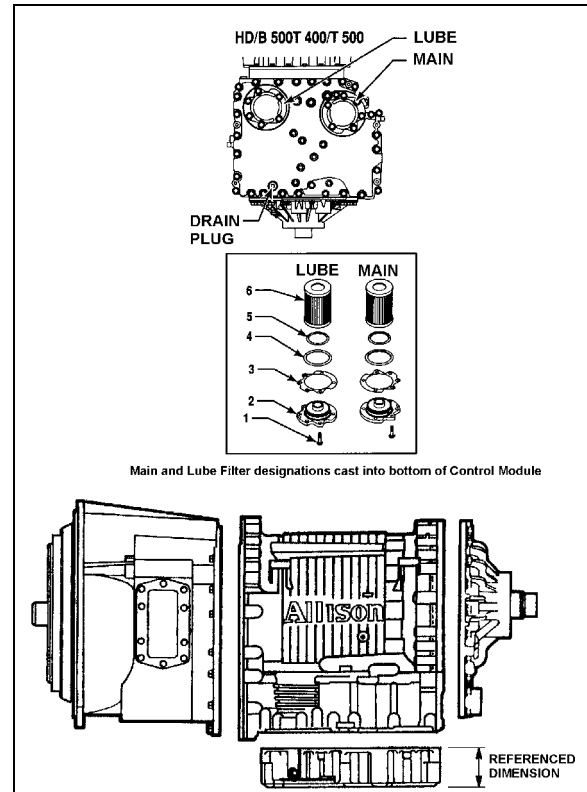

FIGURE 7: DRAIN PLUG AND FILTERS
2. Remove the drain plug from under the transmission (Fig.7) and allow the oil to drain into a suitable container. Check the condition of the oil as described previously.
3. To replace the integral filters, remove twelve bolts (6 on each cover), two filter covers, two O-rings, two square cut seals and the two filters from the bottom of the control module (Fig. 7).